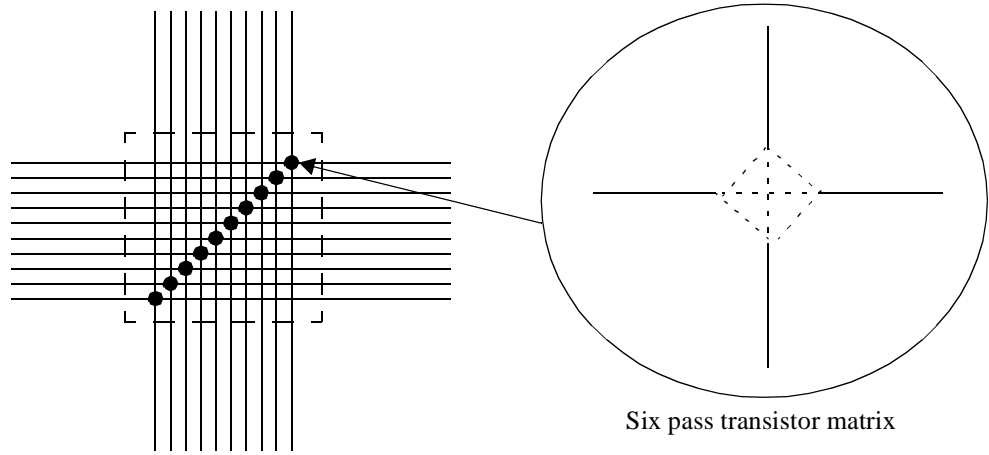

Figure 23 : Programmable switch matrix
- The switch matrix is implemented as a set of six pass transistors. The quad line interconnect have a switch matrix together with a buffer (provides a high speed line). Long lines (run the whole length and width of the chip) can be driven by tristate buffers to form chip wide buffers. See Figure 23.